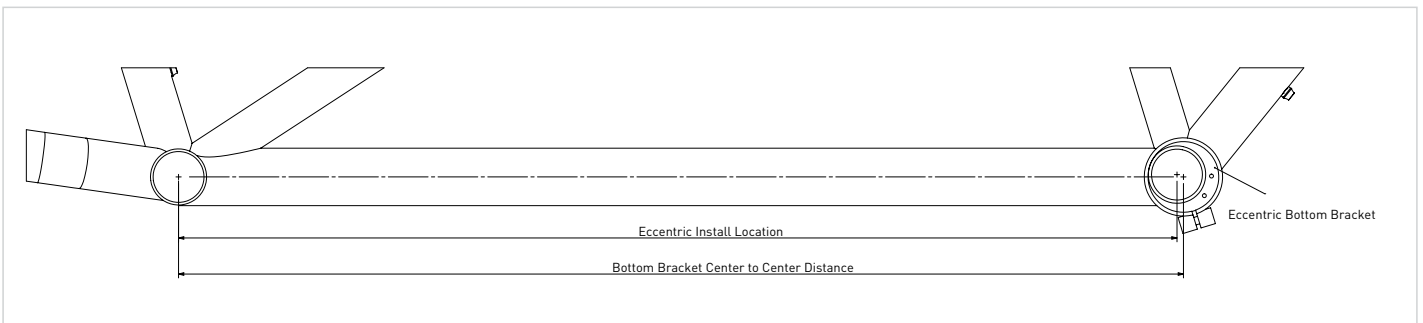

Figure 2
4. Install the appropriate length chain around the stoker and captain chainrings; follow the chain manufacturer's instructions (Fig. 2).